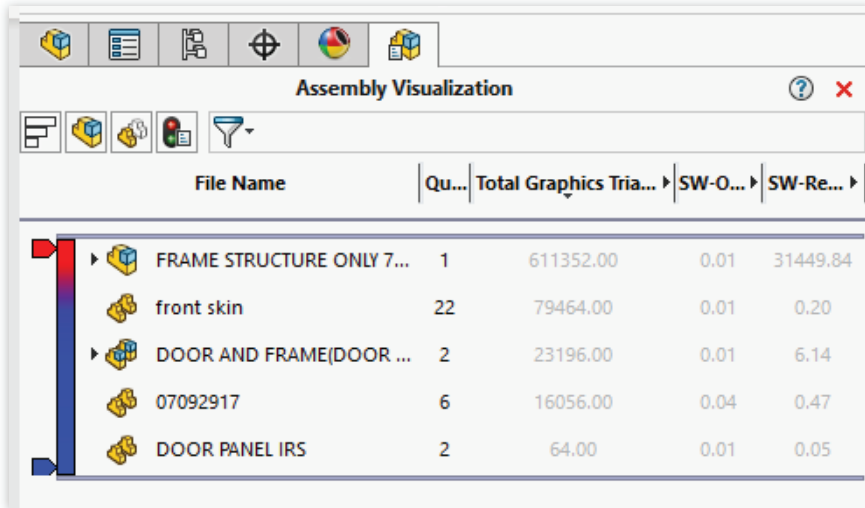
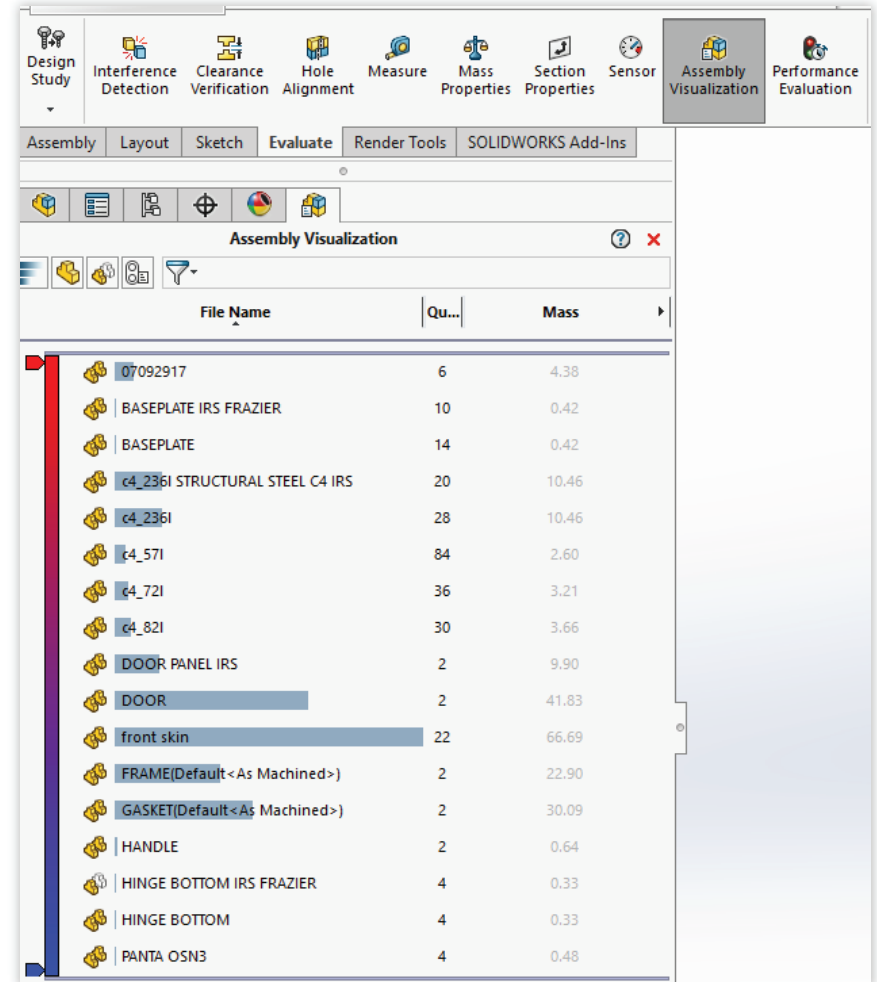

Fig. 4
Fig. 5
5. Use the **Assembly Visualization** tool on the **Evaluate** ribbon to better understand how the assembly is being organized. You can change how you see the assembly using a nested (Fig. 4) or flat (Fig. 5) view.